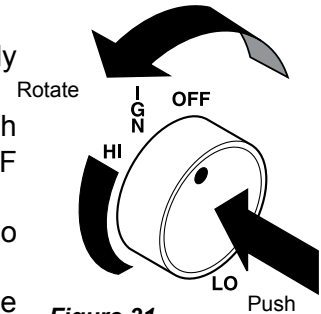

Figure 31 -
- From OFF position, push in gas control knob slightly and turn counterclockwise  to the IGN position. Figure 31. Push in and hold control knob for 5 seconds.